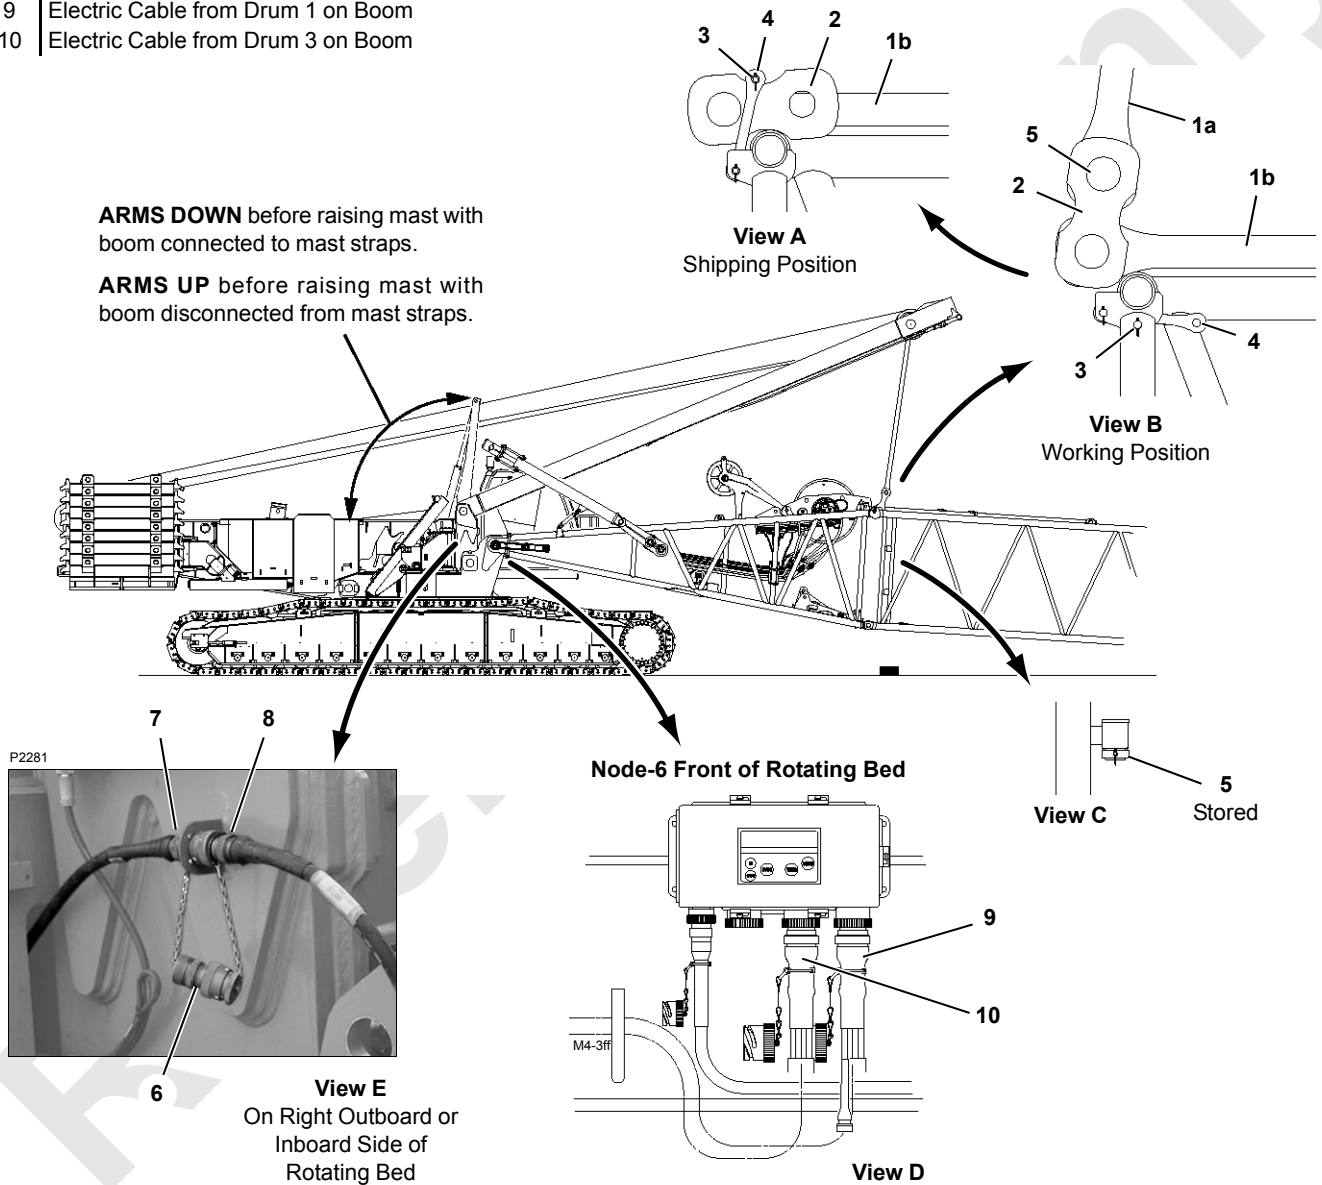

FIGURE 4-23
See Figure 4-23 for the remaining steps:
- a. Disconnect the boom electric cable (8, Figure 4-23, View E) from the electric cable (7) on the crane.
- c. Connect the sealing cap to the electric cable (8) and store the electric cable (8) on the boom butt.
- d. Disconnect the electric cables (9 and 10 (optional), Figure 4-23, View D) from the node on the front of the rotating bed.
2. Disconnect the mast straps from the boom (see Figure 4-23):
- b. Unpin the links (2, View B) from the mast straps (1a) and store the links (2) and straps (1b) as shown in View A.
- c. Store the pins (5) in the pockets on the insert (View C).